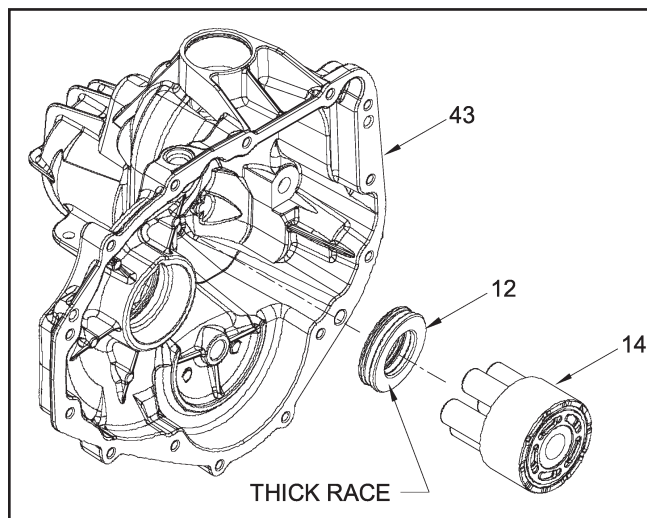

Figure 18
19. **(See Figure 18)** Remove the motor cylinder block assembly (14) from the housing (43).
20. Disassemble the motor cylinder block assembly (14). Check each piston for proper operation by pressing the pistons in and releasing them in the block bore. Disassemble the motor cylinder block. Check for piston/block wear in the cylinder bore. Inspect the